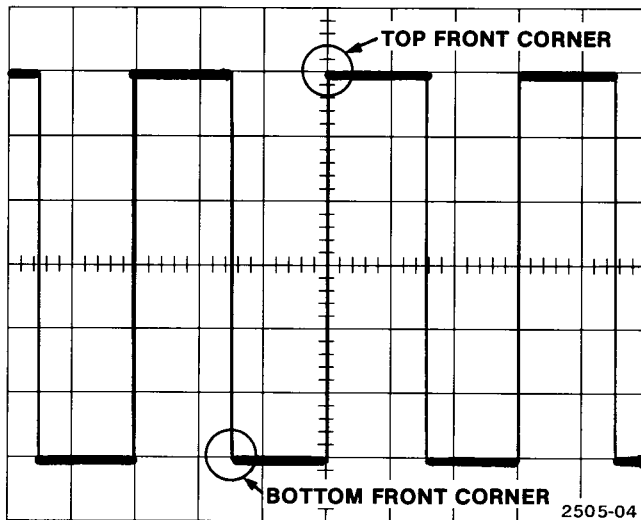

Fig. 4-1. Typical display for adjusting vertical compensation.
n. ADJUST—C168 (HF Comp) for an optimum square front corner on the 603A display (see Fig. 4-1). For best accuracy, position the display corner of interest to graticule center.
e. ADJUST—C110 (+Y Atten Comp) for an optimum square top front corner on the 603A display (see Fig. 4-1). For best accuracy, position the display corner of interest to graticule center.
g. ADJUST—C130 (-Y Atten Comp) for an optimum square bottom front corner on the 603A display (see Fig. 4-1). For best accuracy, position the display corner of interest to graticule center.